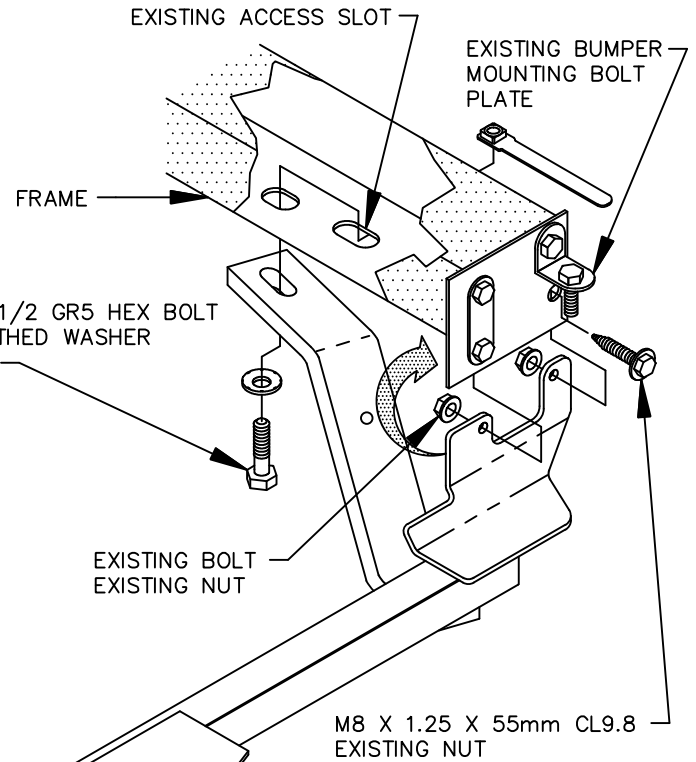

FIGURE 1
4. FISHWIRE CARRIAGE BOLTS AND BLOCKS THROUGH ACCESS SLOT AND DOWN THROUGH ATTACHING HOLES AS SHOWN IN FIGURE 1.
5. REMOVE AND RETAIN LOWER INBOARD BUMPER MOUNTING NUT ON PASSENGER'S SIDE. LOOSEN UPPER INBOARD BUMPER MOUNTING NUT (INSIDE TRUNK) AS FAR AS POSSIBLE WITHOUT REMOVING. REMOVE LOWER OUTBOARD BOLT BY BENDING BOLT PLATE AS SHOWN IN FIGURE 1.
8. INSTALL REMAINING 1/2" FASTENERS AS SHOWN IN FIGURE 1.